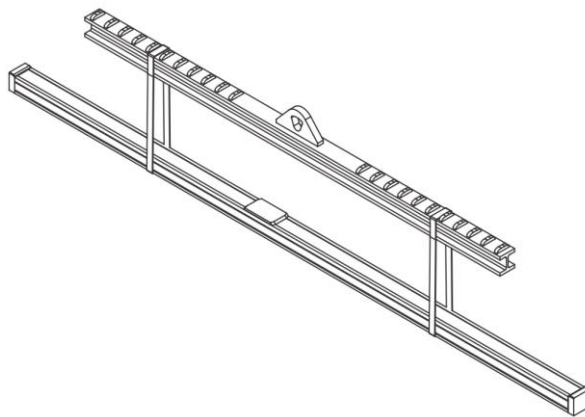

Figure 4.2.1 Hoisting and transporting – here for a linear motor system
- ◆ Lift the linear motor system using the shipping devices (figure 4.2.1)!
- ◆ To transport the linear axis, hoist it at the points designated A and B (figure 4.2.1).